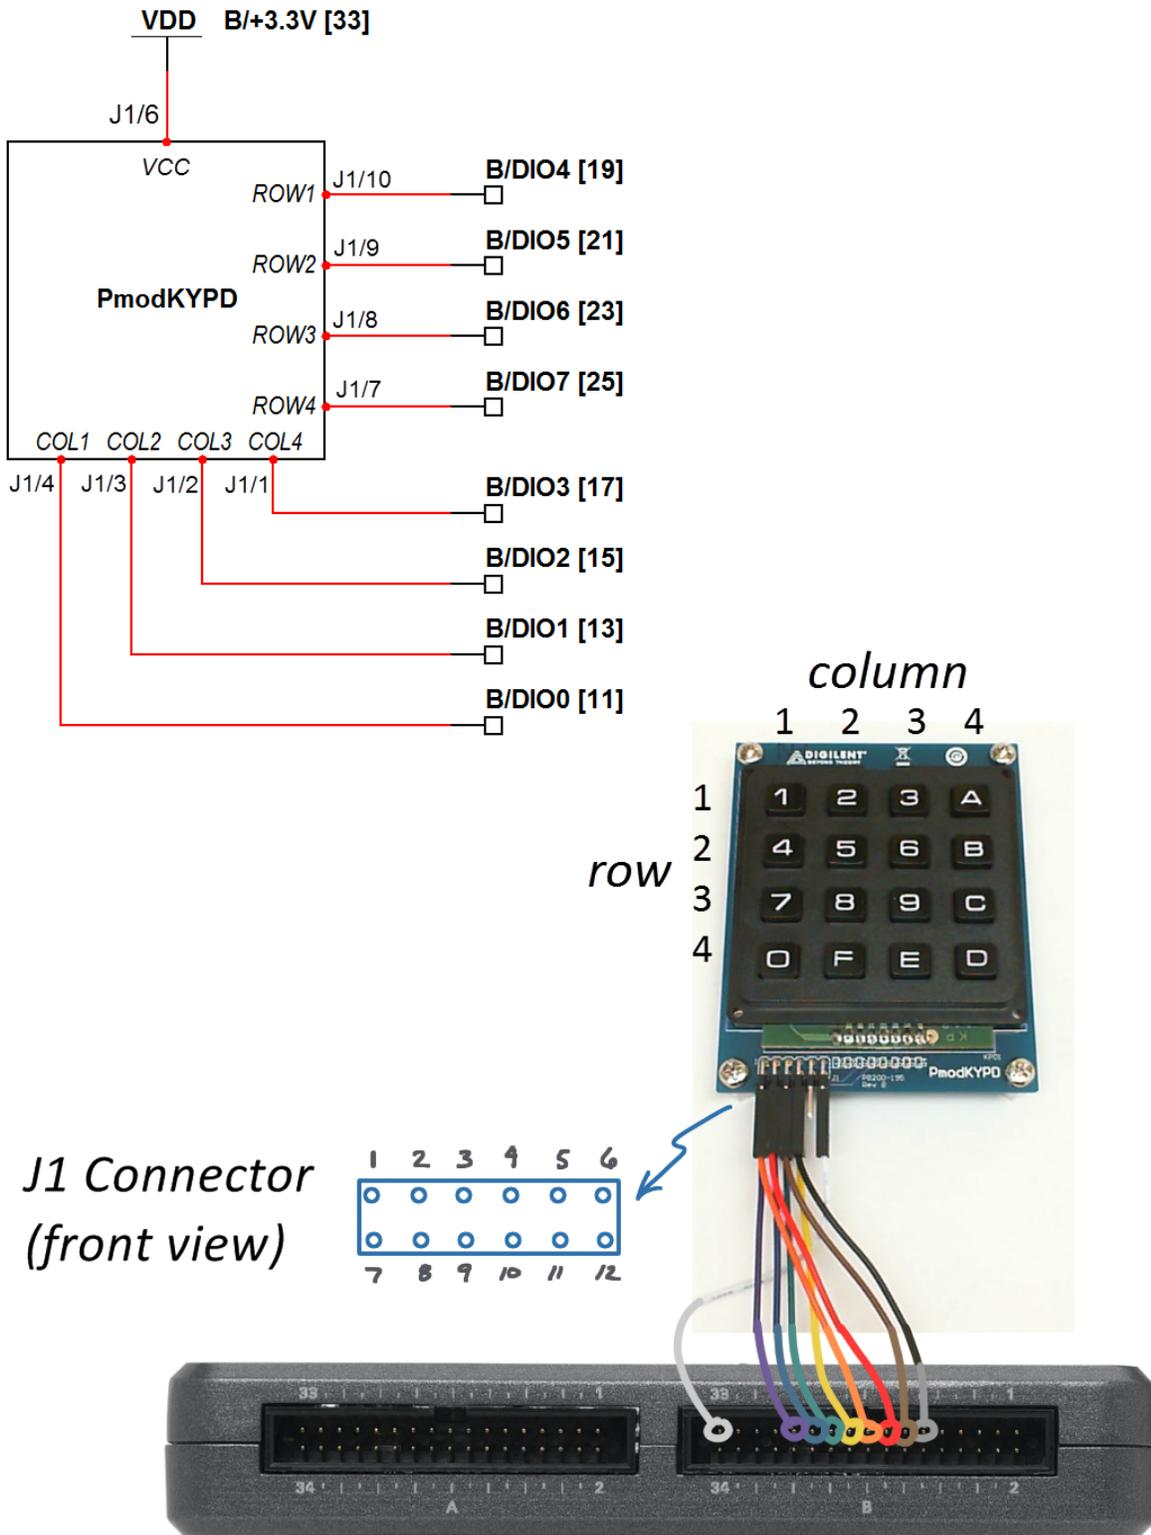

Figure 17.2: Demonstration setup for keypad connected to NI myRIO MXP Connector B.
**Build the interface circuit:** Refer to the schematic diagram shown in Figure 17.2 on page 81; the keypad requires three connections to NI myRIO MXP Connector B: